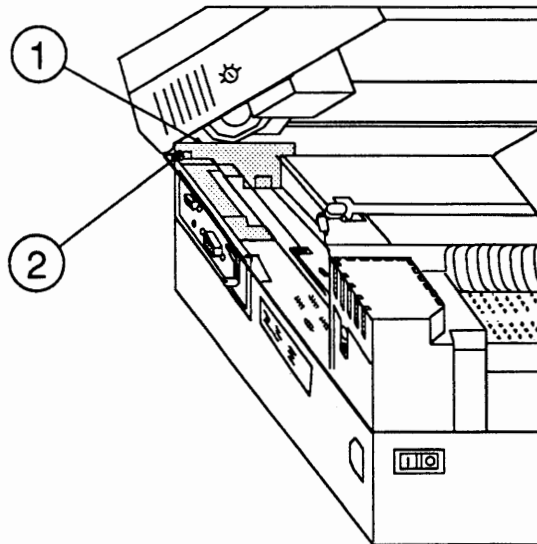

FIGURE 2-61
12. If you removed the mounting connector plate cover, install the cover (Figure 2-61, #1) and replace the single screw holding it in place (Figure 2-61, #2).